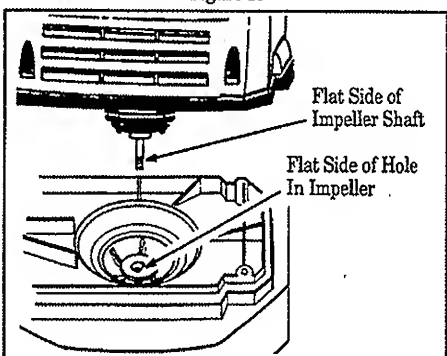

Figure 19
17. Align the hole in the impeller with impeller shaft, making sure flat sides are aligned. Figure 19.